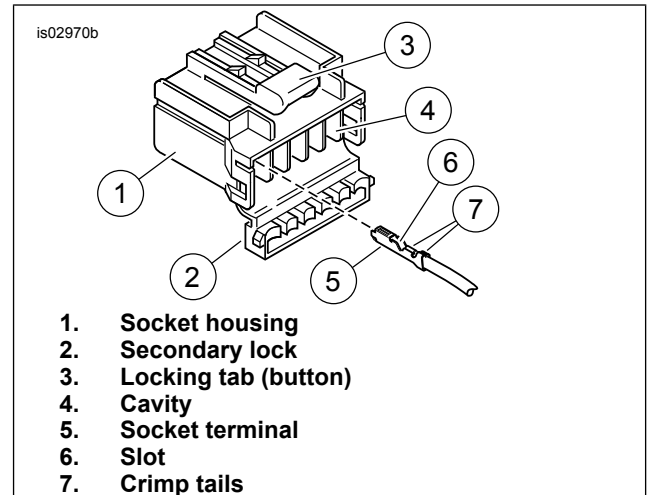

Figure 2. Socket Terminal Installation
- a. See Figure 2. On the secondary lock (2) side of the socket housing (1), position the socket terminal (5) with the slot (6) and crimp tails (7) facing up. (In the same direction as the button (3) on the top of the socket housing).
- b. Insert the terminal into the correct cavity (4) until it snaps into place with an audible "click".